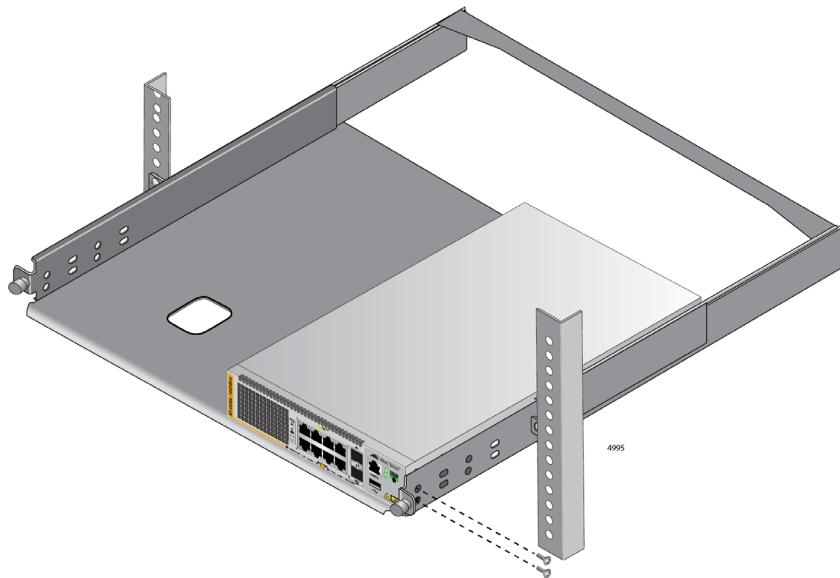

Figure 61. Securing the x530L-10GHXm Switch to the RKMT-J15 Bracket
8. Install two M4x6mm screws included with the RKMT-J15 using the first set of holes to secure the switch to the bracket. Refer to Figure 61.